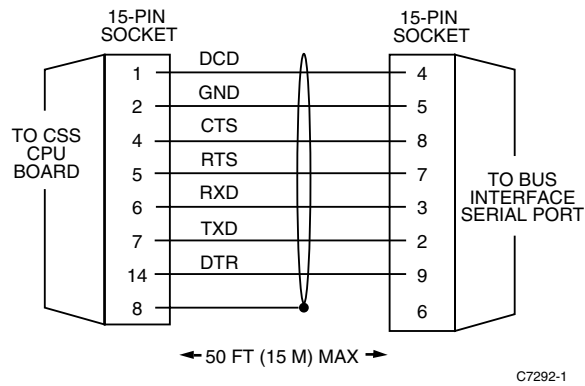

Fig. 9. CSS CPU to XBS PC Bus Interface 15-Pin Connection: 14507085-001 — 25 ft. (7.5 m).
- Connect 14507084-001 or 14507085-001 (Fig. 9) CSS-to-Bus Interface cable from lower 15-pin connector on CPU Board to the appropriate Bus Interface port (Fig. 3 through 6 and job drawings).